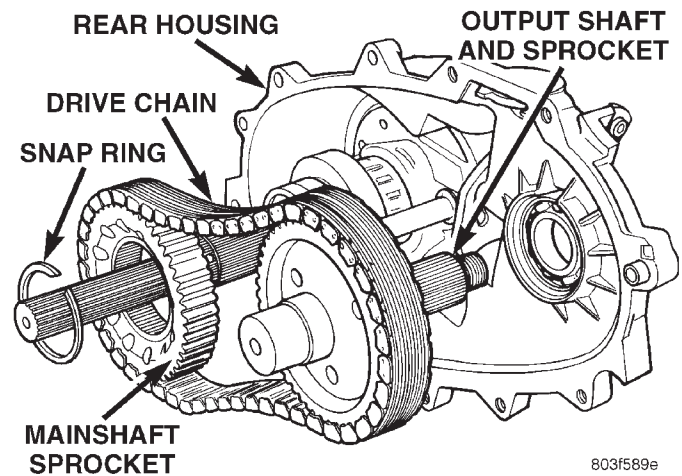

Fig. 26 Front Output Shaft, Drive Gear And Chain Removal
- (6) Remove drive gear snap-ring (Fig. 26).
- (7) Disengage drive gear (Fig. 26). Pry gear upward and off mainshaft as shown.
- (8) Remove front output shaft, drive chain and drive gear as assembly (Fig. 26).
- (9) Remove output shaft drive gear snap ring.